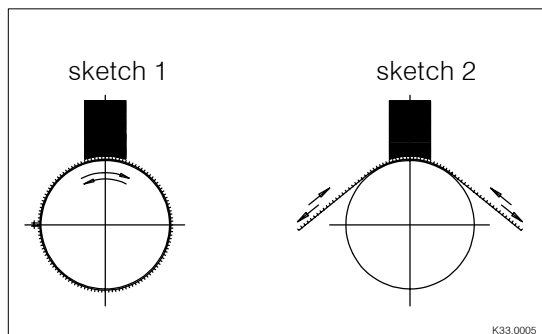

Fig. 4: Grinding of carbon brushes
- For motors which have free access to the shaft ends and where the rotors can easily be rotated by hand (fig. 4, sketch 1):
- For heavy motors which are difficult to move and those motors the shafts ends of which are not accessible, the carbon brushes of each pole must be ground separately (fig. 4, sketch 2):